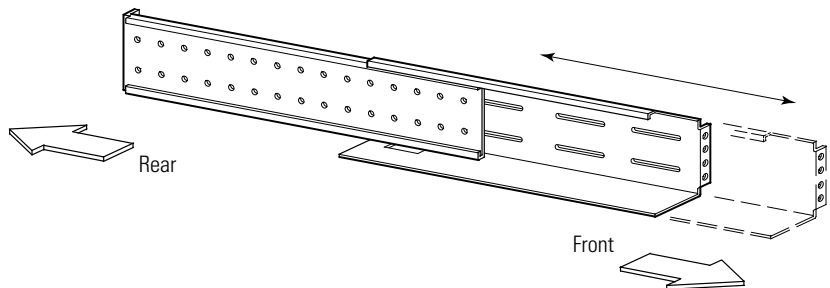
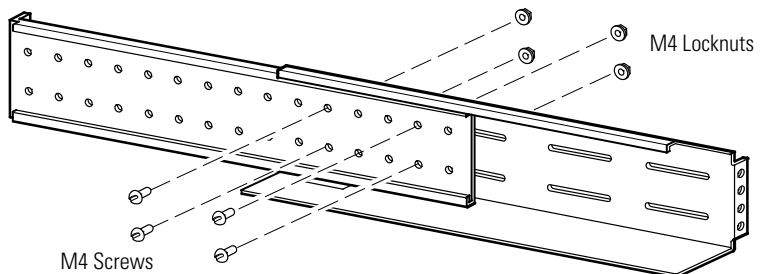

Figure 4. Adjusting the Rail Depth (Right Rail Assembly Shown)
Figure 6. Tightening the Rail Adjustment (Right Rail Assembly Shown)
2. If access to the sides of your rack is difficult, adjust the length of the rails (see Figure 4) and loosely install the fasteners (see Figure 6) before continuing to Step 3.
4. Adjust the rail size on the rail assembly for the depth of your rack (see Figure 4).
7. To tighten the rail adjustment, assemble four M4 machine screws and four M4 locknuts to the middle of the rail assembly. Tighten using a 7 mm (9/32") nut driver. See Figure 6.